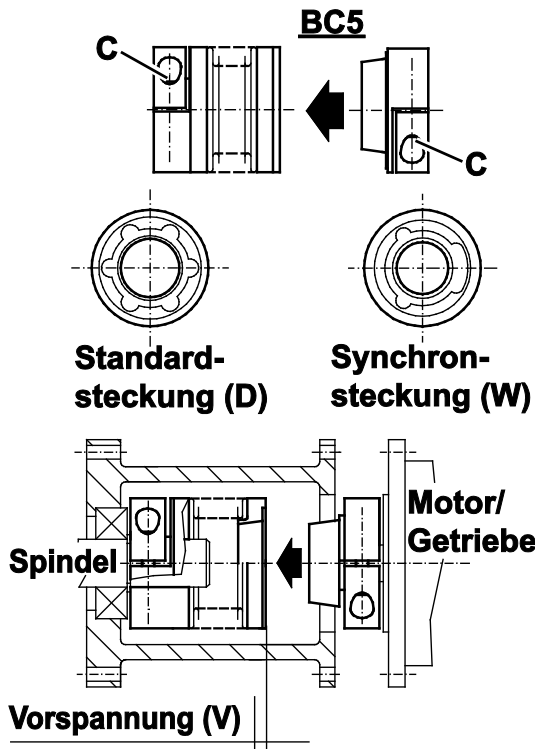

Fig. 5.6
Before assembly, the installation dimension must be determined, so that after the halves of the coupling have been plugged into each other, the required preload (V) is achieved (Fig. 5.6).
- Now measure the plugged in length of the metal bellows coupling and determine the installation dimension, taking into account the preload (V) in accordance with Chapter 7.4.
- With the correct axial position, tighten the clamping bolts (C) of the coupling halves using the torque wrench.
- Standard plug connection (D): Several positions possible
- Synchronous plug connection (W): Only one position possible
- Check whether it is possible to clearly feel the preload (V) of the metal bellows coupling as determined prior to the assembly.